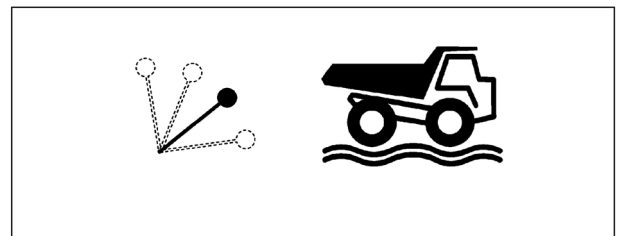

Fig 4.26
5. Make sure the body control lever is in the 'FLOAT' position. (see Fig 4-26).